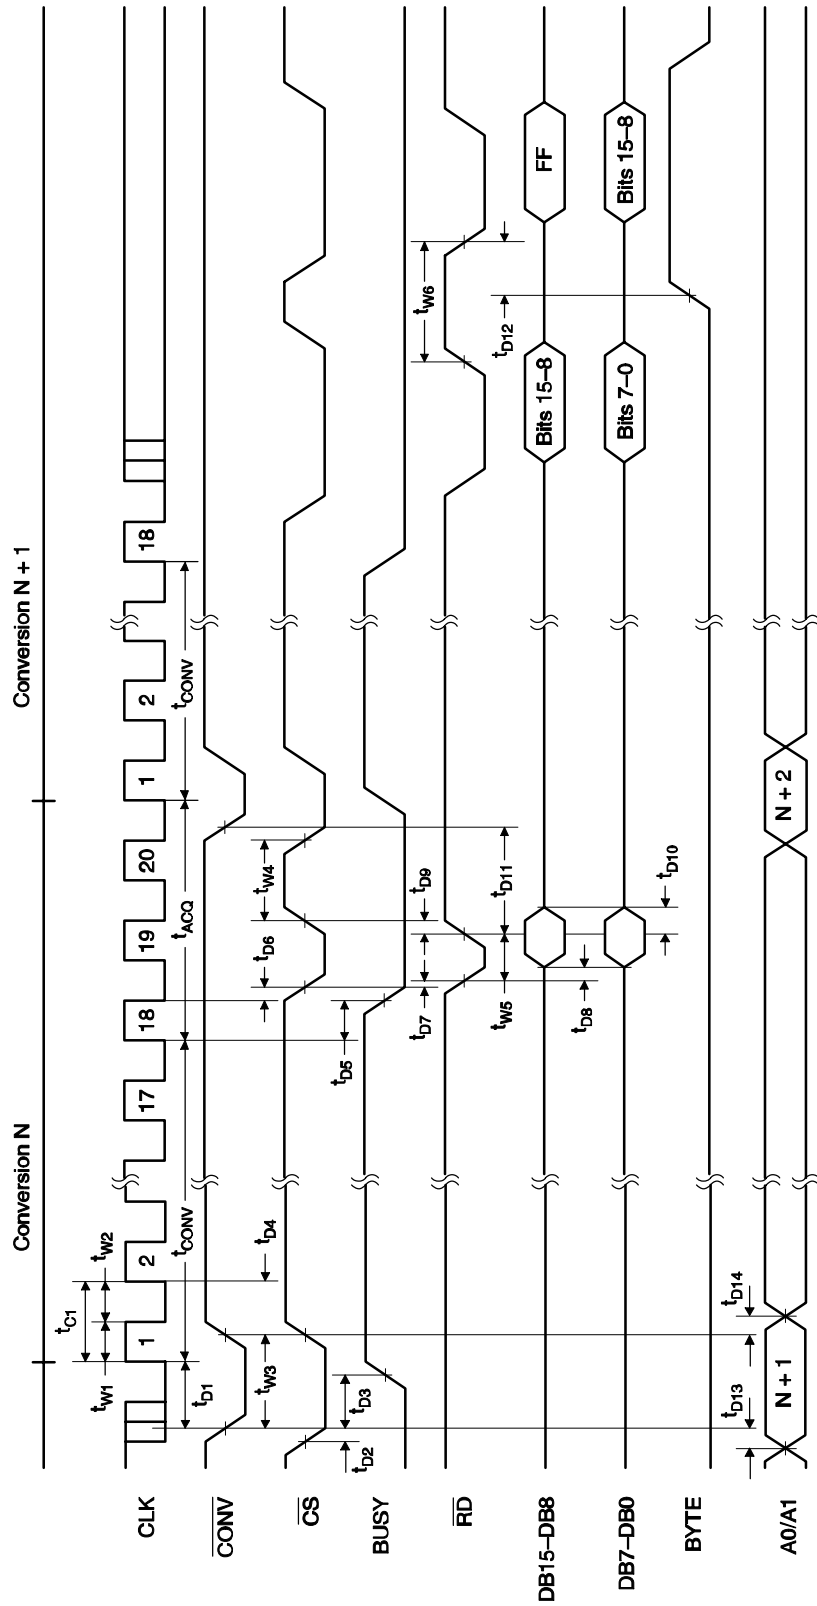

Figure 2. Timing Diagram
(1) All input signals are specified with rise and fall times of 5ns,  $t_R = t_F = 5ns$  (10% to 90% of  $BV_{DD}$ ), and timed from a voltage level of  $(V_{IL} + V_{IH})/2$ .
(2) See timing diagram in Figure 2.